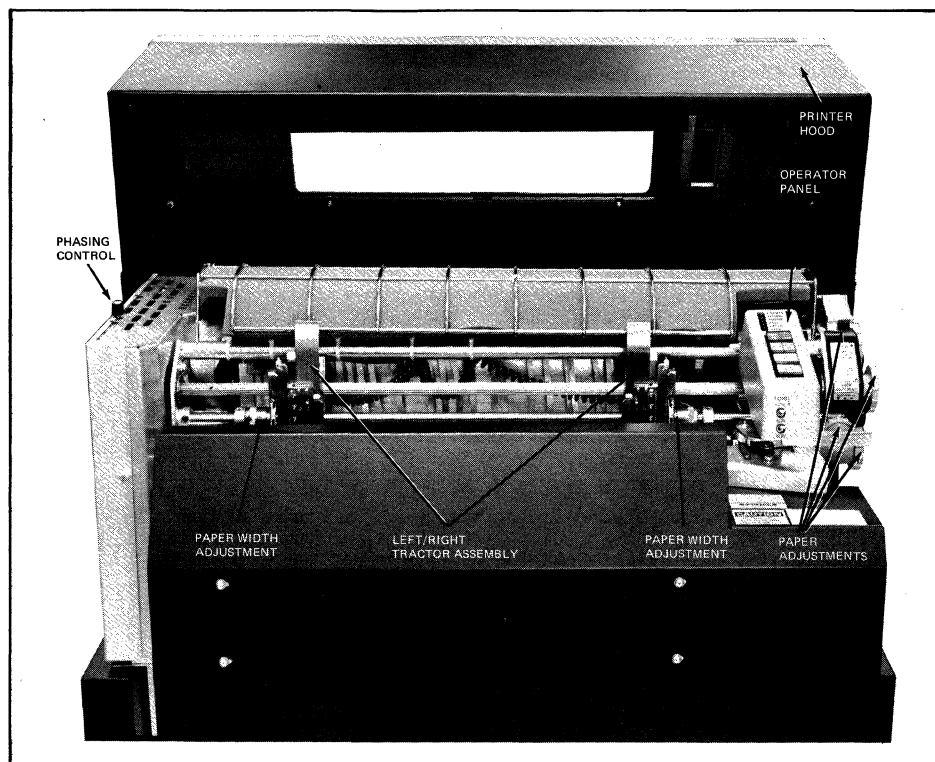

Figure 13-3. Mechanical Adjustments
Line printer controls and indicators necessary for normal printer operation with the exception of the MAIN POWER switch and Print Inhibit switch are located at the front of the printer, as shown in Figure 13-2. The printer hood, however, must be raised (as shown in Figure 13-3) for access to the FORMS RESET and 6LPI/8LPI controls, as they are concealed from view with the hood closed.
In addition to the main controls, there are mechanical controls and mechanical adjustments directly related to the control of printing and paper feeding located on the printer mechanism that are described below (see Figures 13-3 and 13-4).
There are several mechanical adjustments which are located in the printer mechanism for the control of printing and paper feeding as shown in Figures 13-3 and 13-4.
3. Open both spring loaded tractor pressure plates (see Figure 13-3).